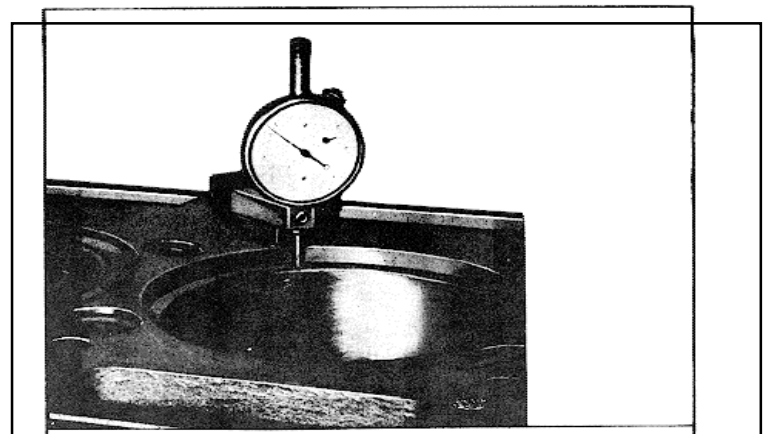

Fig. 5
- (3) Make sure the cylinder liner counterbores in the block are clean and free of dirt. Then check the depth (Fig. 5). The depth must be either .4755" to .4770" or .4905" to .4920" and must not vary more than .0015" throughout the entire circumference.